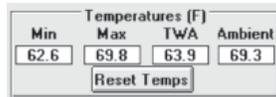

Figure 7. Temperatures Display
- C. Temperature Display (see Figure 7)
The Temperatures display (Figure 7) shows the temperature data of the air entering the connected Pocket Pump.